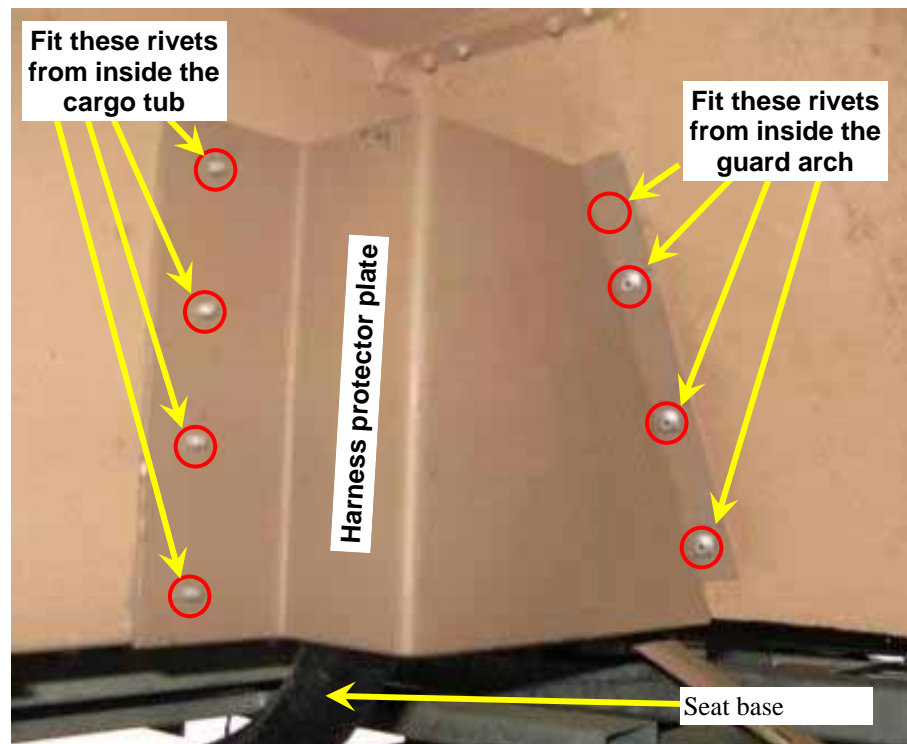

Figure 26 Installation of the Harness Protector Plate
- (12) Under the left-hand rear guard arch, use the harness protector plate (Table 1, Item 50) as a template to drill and fit the plate in position over the conduit entry point into the battery box with pop rivets (Table 1, Item 88) as shown in Figure 26. Pop rivet from inside the cargo tub area to secure the plate to the side wall of the sponson.